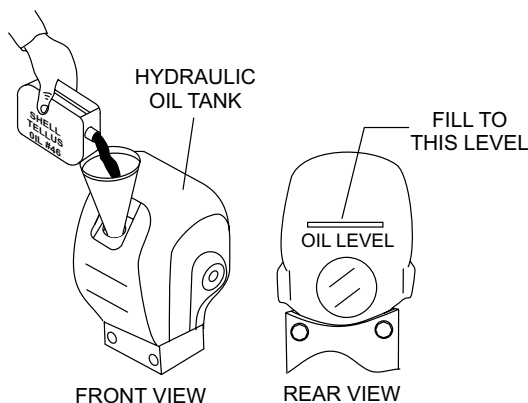

Figure 33. Adding Hydraulic Oil
2. Using a funnel, add Shell Tellus Oil #32 or equivalent to the hydraulic oil tank through the oil filler port (Figure 33). Oil tank capacity is 18.7 fl. oz (550 cc).